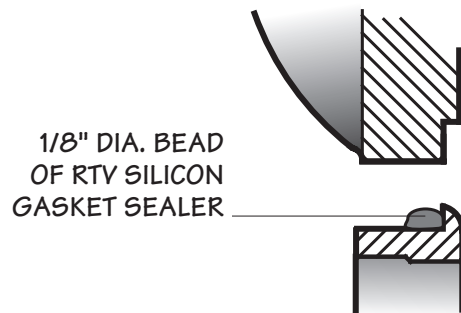

Figure 5 Flange Seal of Bottom Bearing Cap
1. Press ring gear hub (8) and the upper and lower bearing cones (411 and 412) on the fan shaft (201). Install ring gear (101) on ring gear hub and tighten cap screws to 90 ft·lbf (123 N·m).
2. Install upper fan shaft bearing cup (412) and bearing retainer without shims.
3. Turn the Geareducer case upside down and install the fan shaft assembly seating the upper fan shaft bearing cone into its cup. Install the lower bearing cup (411).
4. Install the bottom cover cap using sealer as indicated in **Figure 5** and tighten cap screws to 25 ft·lbf (34 N·m). Use old shim pack or make up equivalent thickness shim pack (420) and install the bottom bearing retainer cap. Do not install the O-ring for the bottom bearing retainer at this time. Tighten the cap screws to 25 ft·lbf (34 N·m).